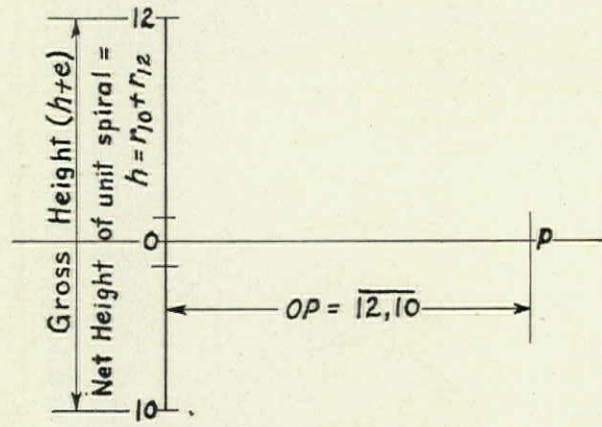

Fig. 9
- (5) Through a point O , midway between H and I , draw a horizontal line; on this lay off the distance OP equal to the line 12, 10, which is the gross height of the unit spiral. (Fig. 9).